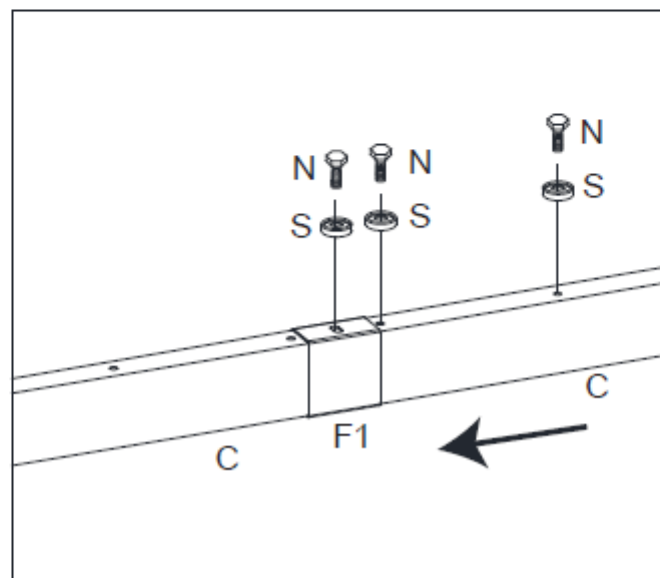

Figure 2-3
Step 2C: Attach the opposite Outside Lintel (C) to the Cross Beam Center Connector Plate (E) with Bolts (N) and Plastic Washers (S). **Tighten all Bolts.** See Figure 2-3.